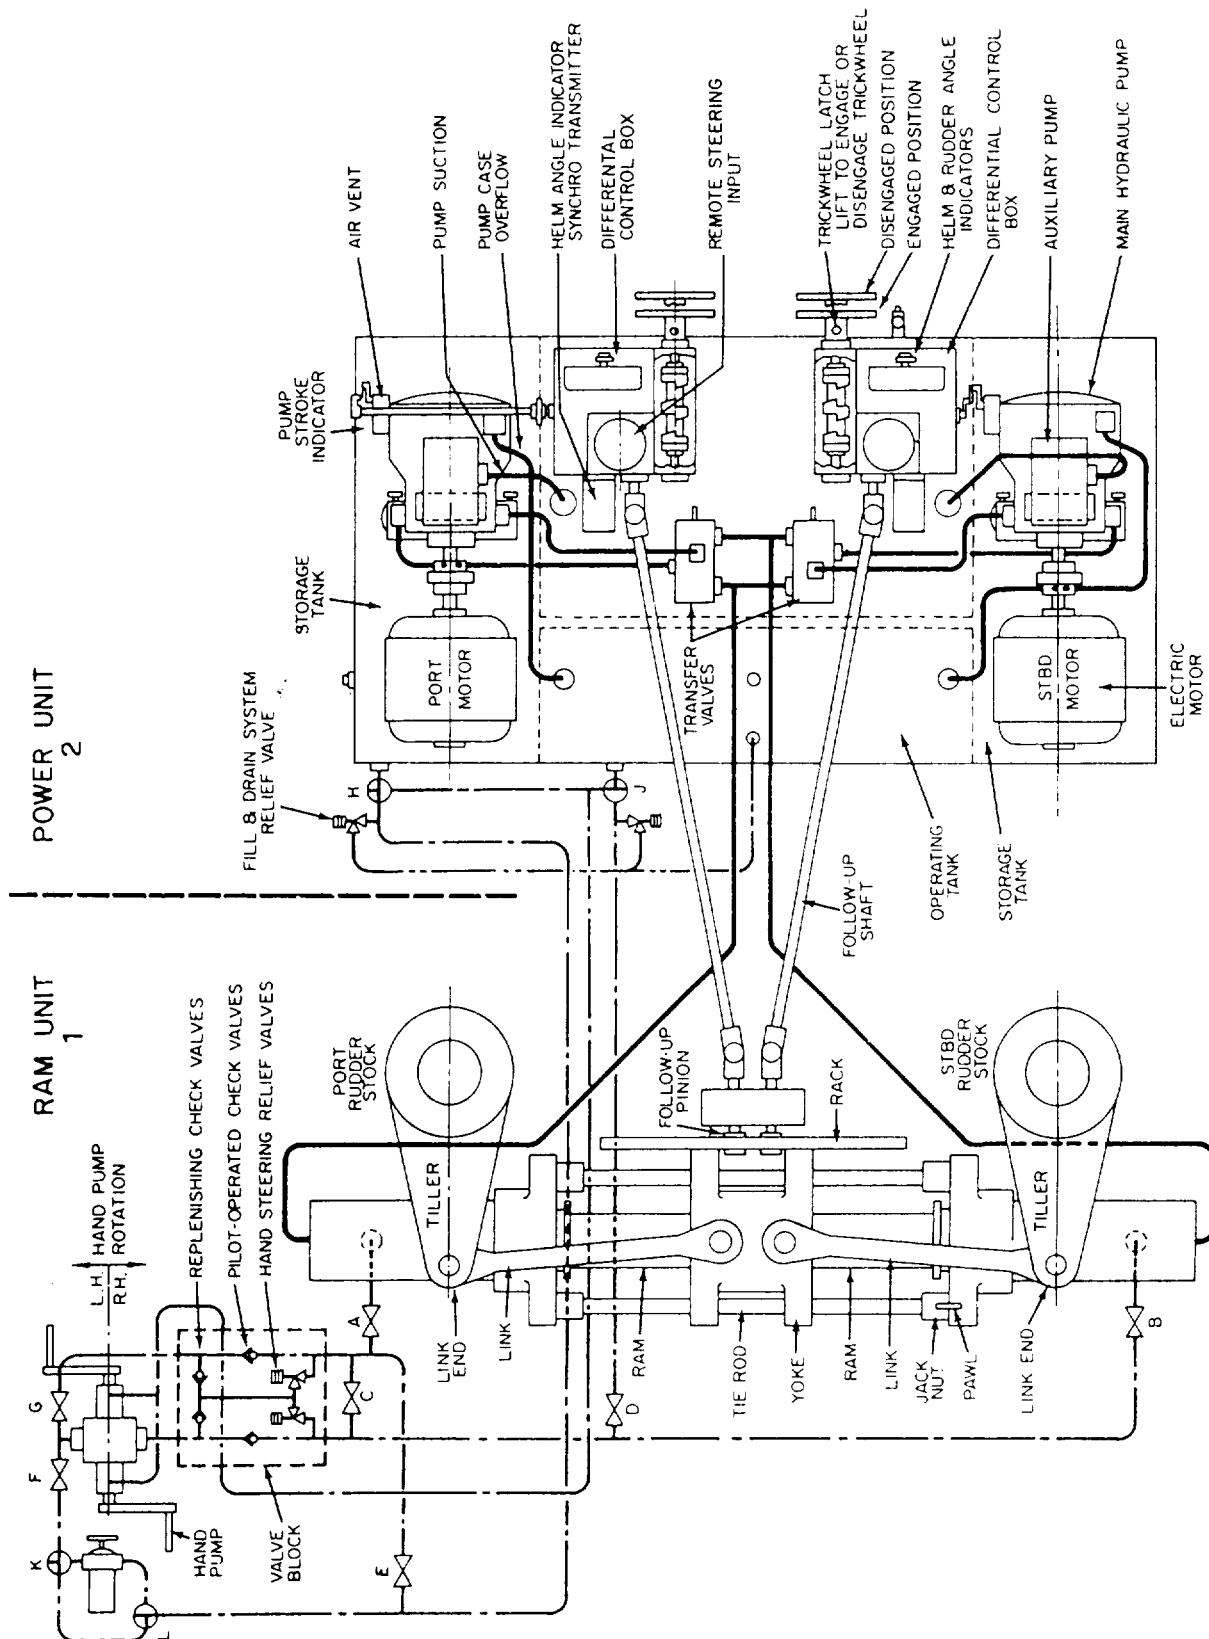

Figure 11-15.—Electrohydraulic steering
The majority of steering gear installations in new construction naval vessels are of the electrohydraulic type. The electrohydraulic steering system installed in one class of destroyer (fig. 11-15) consists essentially of (1) a ram unit, (2) a power unit, and (3) a remote control unit (not shown).